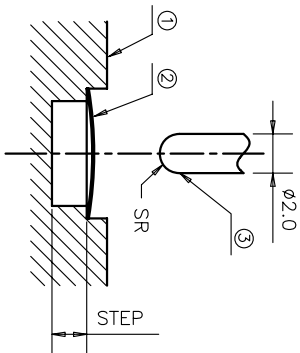

Fig1. MEASURING METHOD
1. ALL THE OPERATING PERFORMANCE SPEC. IN BELLOW TABLE SHOULD BE MET. THE MEASURE METHOD IS SHOWN AS FIG.1.